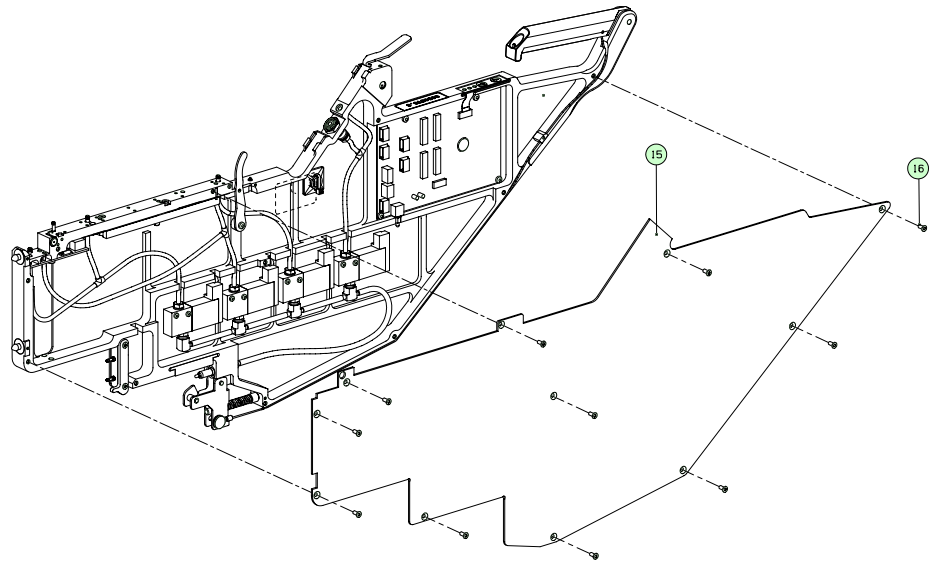

FIGURE 6.2.7
- Replace side plate according figure 6.2.7